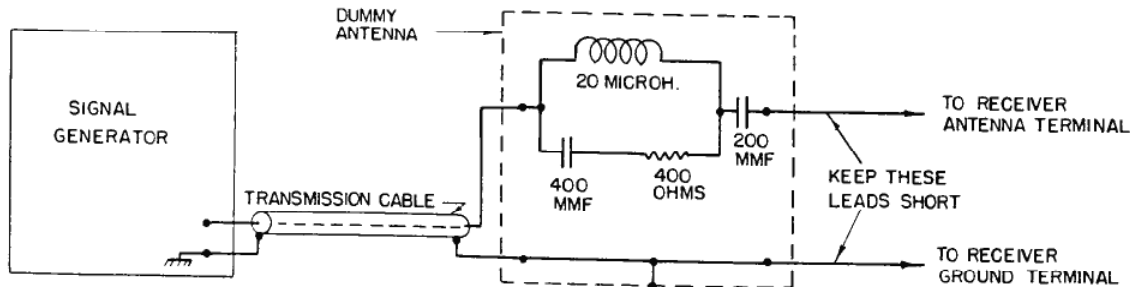

FIG. 6 DUMMY ANTENNA CONNECTIONS
- (a) STANDARD DUMMY ANTENNA: An inductance of 20 microhenries in shunt with a series combination of a 400 mmf. capacitor and a 400 ohm resistor, the entire combination being in series with a 200 mmf. capacitor. See Fig. 6. At this writing (1942) this is the Standard Dummy Antenna prescribed by the Institute of Radio Engineers. If such a device is not available, a 200 mmf. capaci-
- (1) Turn the INPUT CPLG switch to position 5. Place RECEPTION switch in CW position; O.L. switch OFF; AUDIO in BROAD position.
- (2) Connect the signal generator to the receiver input jack through the Standard Dummy Antenna. See Fig. 6. A General Radio Type 418G Dummy Antenna may be plugged directly into the receiver input jack and connected through the -49152 Adaptor.
- (3) Connect a 600 ohm output meter to the output of the receiver, and shunt a headset across the meter for monitor-
- (A) Loosen the nuts which secure link E-101, located on the top side of the chassis adjacent to the detector tube (the type 6J5). Swing back the link and connect in its place a microammeter having a range of approximately 0 to 500 microamperes.
- (B) Connect the signal generator to the receiver through the Standard Dummy Antenna, as described in section 6-7-2 (a) and illustrated in Fig. 6. Set INPUT CPLG switch to position 5. Put RECEPTION switch in MOD position.
- (C) Set the signal generator to the desired frequency and adjust for 100 microvolts input. Carefully tune the receiver, including the ANT. COMP., to resonance with the signal, as indicated by maximum deflection of the microammeter. Adjust the GAIN control so that the microammeter reading is 140 microamperes.
- (D) Now increase the signal generator output by a factor of 10/1, and detune the signal generator toward a higher frequency until the microammeter again reads 140 microamperes. Record accurately the frequency of the signal generator, and call this frequency F2. Repeat on the low frequency side of resonance and call this frequency F1. Subtract F1 from F2 and divide by 2, giving "KC off resonance". Divide this in turn by the resonant frequency, and multiply by 100, to obtain "% off resonance". Repeat this procedure with the signal generator output increased by 100/1, and by 1000/1.
- (B) Connect the signal generator to the receiver through the standard dummy antenna as shown in Fig. 6. Set INPUT CPLG switch to position 5.
- (C) Connect the microammeter in the detector cathode circuit, as described in section 6-7-4-2 (A).
- (D) Adjust the signal generator to 600 KC and turn the main tuning control of the receiver to 600 KC. Place the reception switch in the MOD position; O.L. switch OFF; AUDIO switch to BROAD; ADD DECIBEL switch to OFF. Set ANT. COMP. to -2 (two lines to the left of 0), AND LEAVE IT AT THIS POSITION THROUGHOUT THE ALIGNMENT OPERATIONS.
- (E) Adjust signal generator output and/or the GAIN control until the microammeter reads about 150 microamperes. Adjust trimmer capacitors C-122b, C-124b, C-126b, and C-128b for maximum reading of the microammeter. Keep the microammeter reading below 300 by reducing signal generator output or gain control setting. (Current values in excess of this do not damage the receiver, but resonance indications will be broadened due to overloading of the 3rd radio frequency stage).
- (F) Reduce the signal generator output and place the RECEPTION switch in the CW position; adjust the oscillator trimmer capacitor C-130b for a 1000 cycle beat note, taking care that the oscillator frequency is higher than the signal frequency. To check this, decrease the signal generator frequency slightly; if the beat note frequency increases, the oscillator adjustment has been correctly made.
- (G) Place the RECEPTION switch in the MOD position, and adjust the main tuning control on the receiver to the nominal low frequency limit of the band (in this example, 235 KC). Resonate the signal generator with the receiver, as indicated by maximum reading of the microammeter. Switch to CW reception and adjust the oscillator coil inductance for a 1000 cycle beat note, again making sure that the oscillator frequency is higher than the signal frequency.
- (H) Re-tune the receiver to 600 KC, switch to MOD reception and carefully adjust the signal generator to resonance. Switch to CW reception and readjust the oscillator trimmer capacitor C-130b (if necessary) for a 1000 cycle beat note.
- (I) Repeat steps (G) and (H). This is necessary because the coil adjustment reacts on the capacitor adjustment, and vice versa.
- (J) Repeat the procedure outlined from (D) to (I) above for the other frequency bands, starting at the upper nominal frequency limit of each band. The nominal frequency limits are engraved on the dial mask. When finished, close all trimmer adjustment holes and tighten the elastic stop nuts; replace the detector cathode link, the